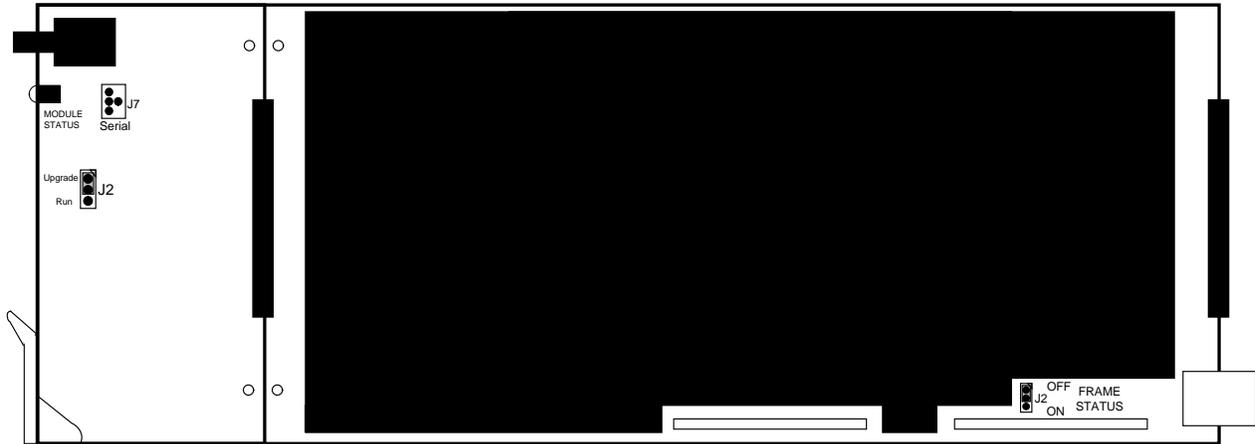

Figure 6-1: Location of Jumpers – Top View
Figure 6-1 provides the locations of the jumpers and LEDs on the 7847FSE board.
**UPGRADE:** The UPGRADE jumper (J2) is located on the top side of the main module near the front of the card and is used when firmware upgrades are being performed on the module. For normal operation it should be switched to the *RUN* position as shown in the Figure 6-1 and Figure 6-2. See the *Upgrading Firmware* chapter in the front of the manual binder for more information.